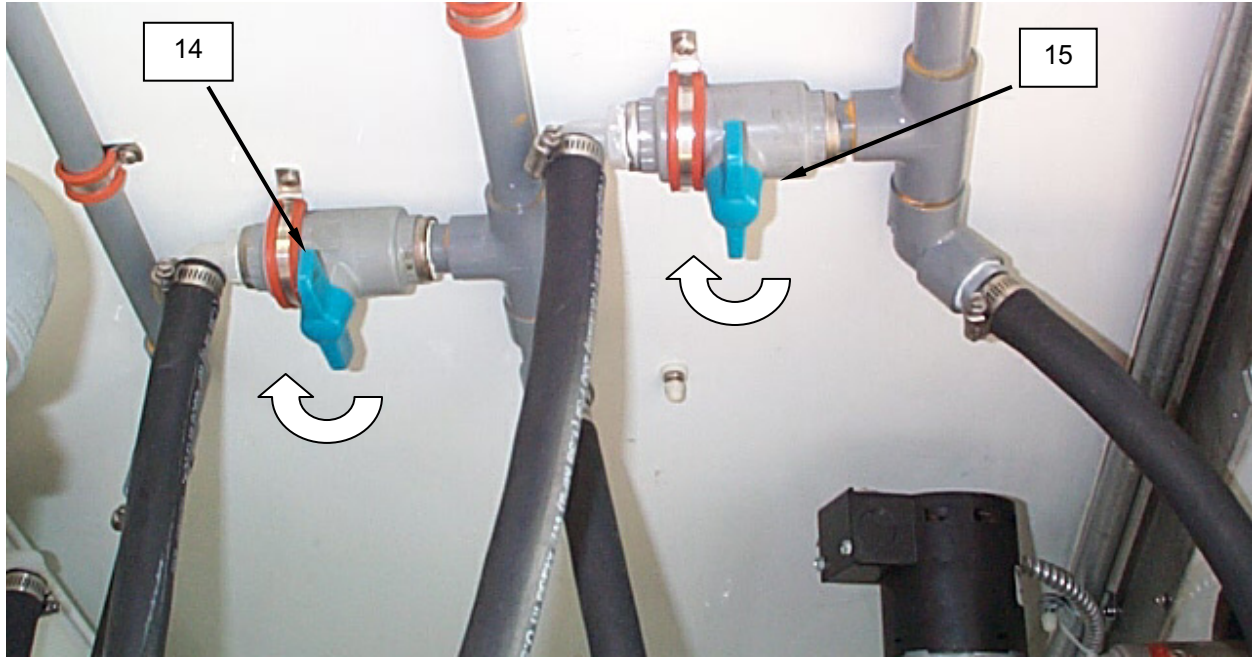
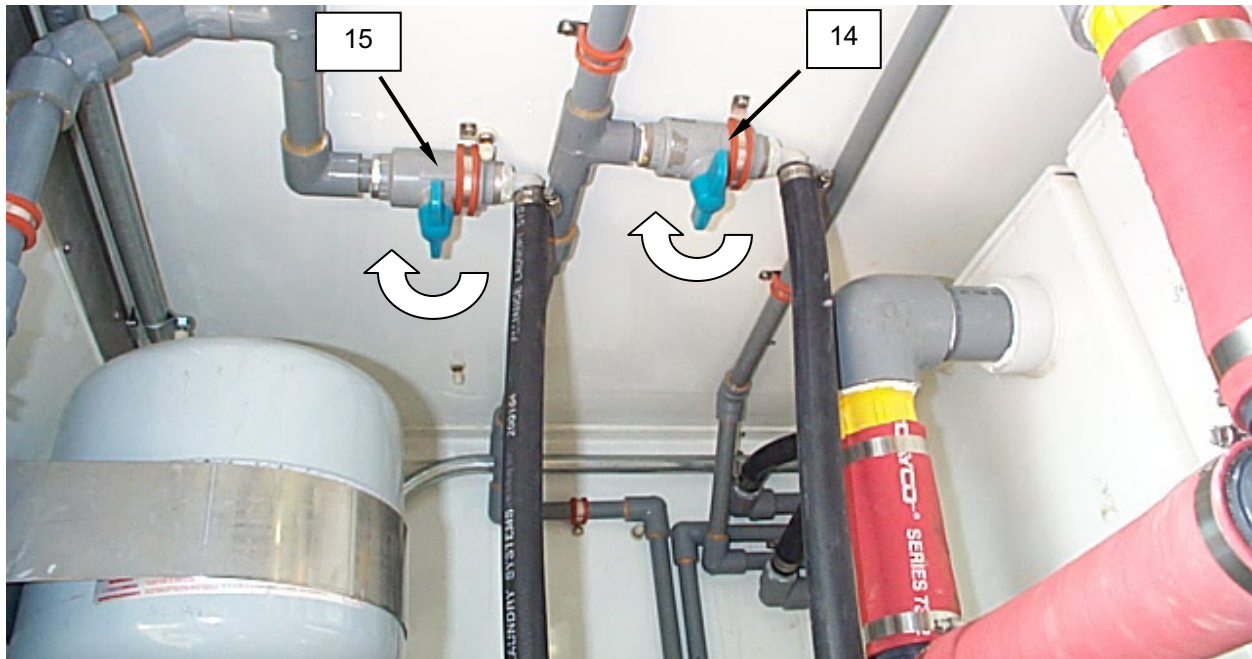

Figure 10. Hot and Cold Water Supply Valves for Washer No. 1.
Figure 11. Hot and Cold Water Supply Valves for Washer No. 2.
9. Open the hot (**Figure 10, Item 14**), (**Figure 11, Item 14**) and cold (**Figure 10, Item 15**), (**Figure 11, Item 15**) water supply valves to both washers.